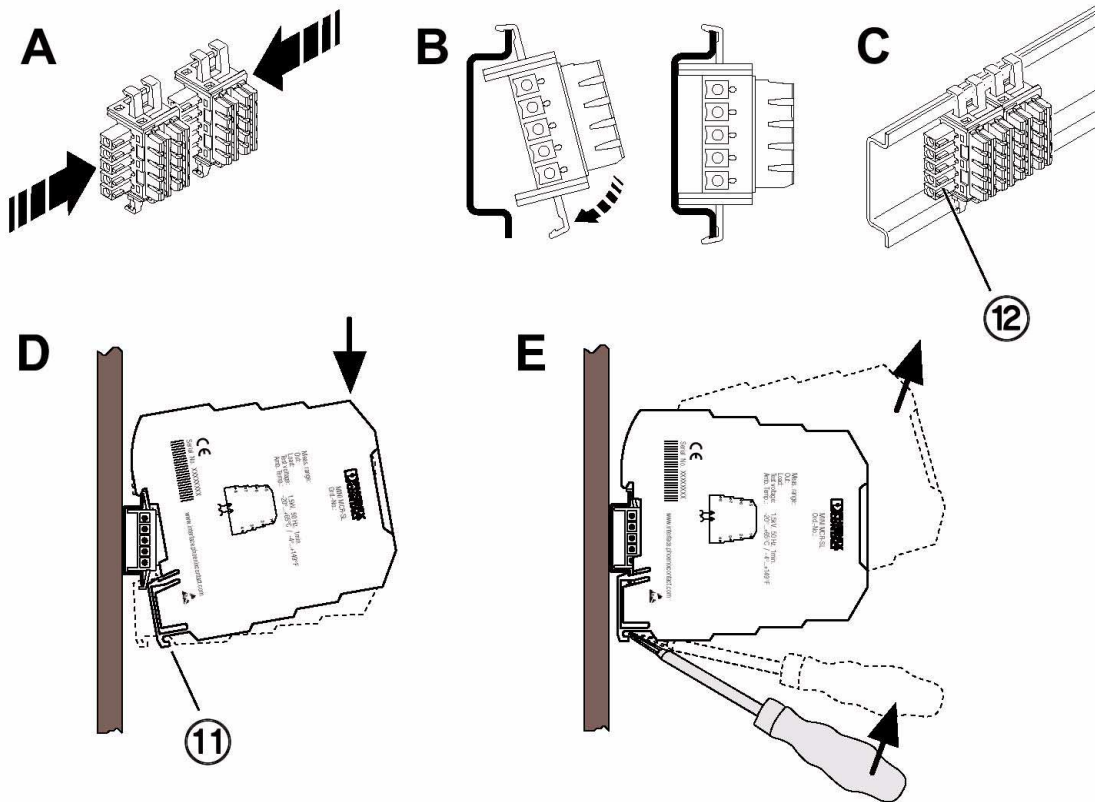

Figure 4 Mounting/Removing
Snap-on foot (Figure 4, detail D 11)
below and **plug** (Figure 4, detail C 12)
- First position the DIN rail connector in the DIN rail to bridge the voltage supply (see Figure 4).